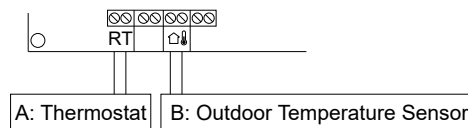

Figure 9.2 Room thermostat and outside sensor connection
3. Connect the room thermostat (A) and, if present, the outdoor temperature sensor (B) to the terminal strip (see figures 9.2 and 9.3). The outdoor temperature sensor is optional, does NOT have to be installed for the Eco-King boiler to function.